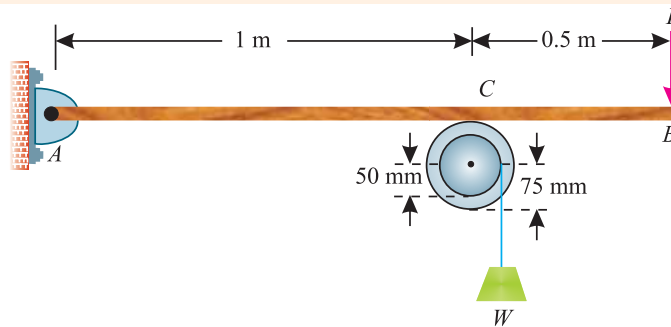

Fig. 8.6.
**Example 8.4.** What is the maximum load ( $W$ ) which a force  $P$  equal to 5 kN will hold up, if the coefficient of friction at  $C$  is 0.2 in the arrangement shown in Fig. 8.6. Neglect other friction and weight of the member.